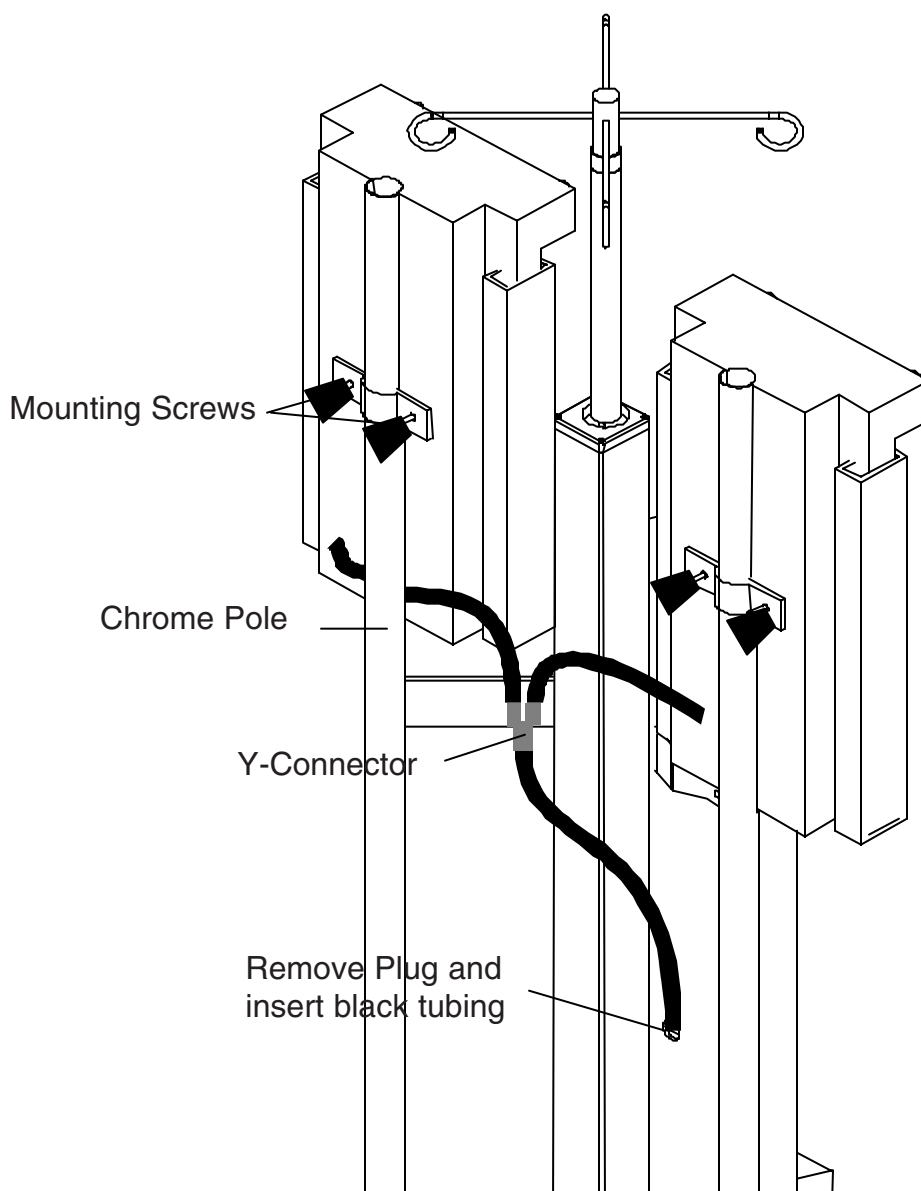

Figure 5. Installing Pressure Infusers
1. Loosen the two pole mounting thumb screws on the back of one H-2 pressure chamber as seen in Figure 5. Slide the H-2 over the top of the flanking bracket.